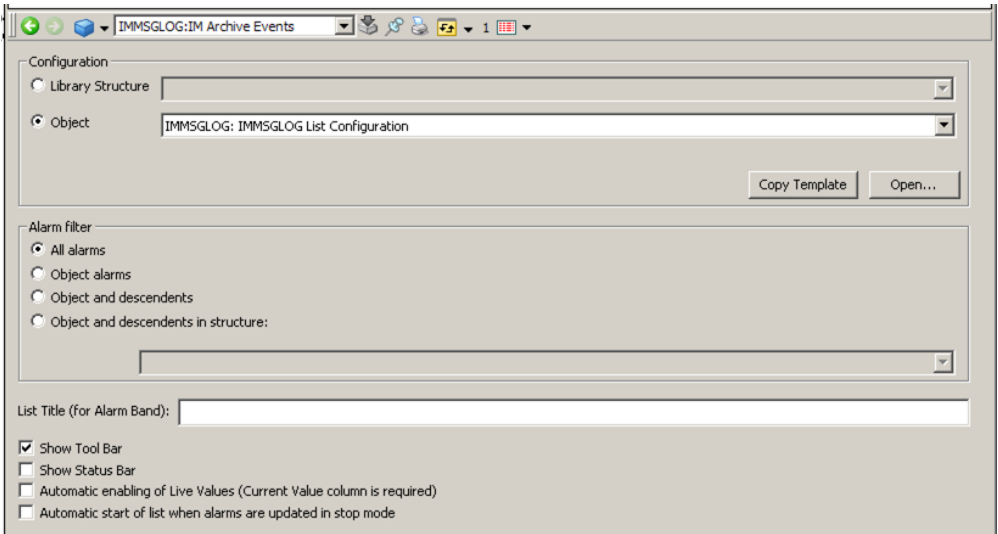

Figure 100. Creating Alarm and Event List Configuration Aspect
- Click Copy Template and then Apply. An Alarm and Event List Configuration aspect is now added to the object. Refer to Figure 100.